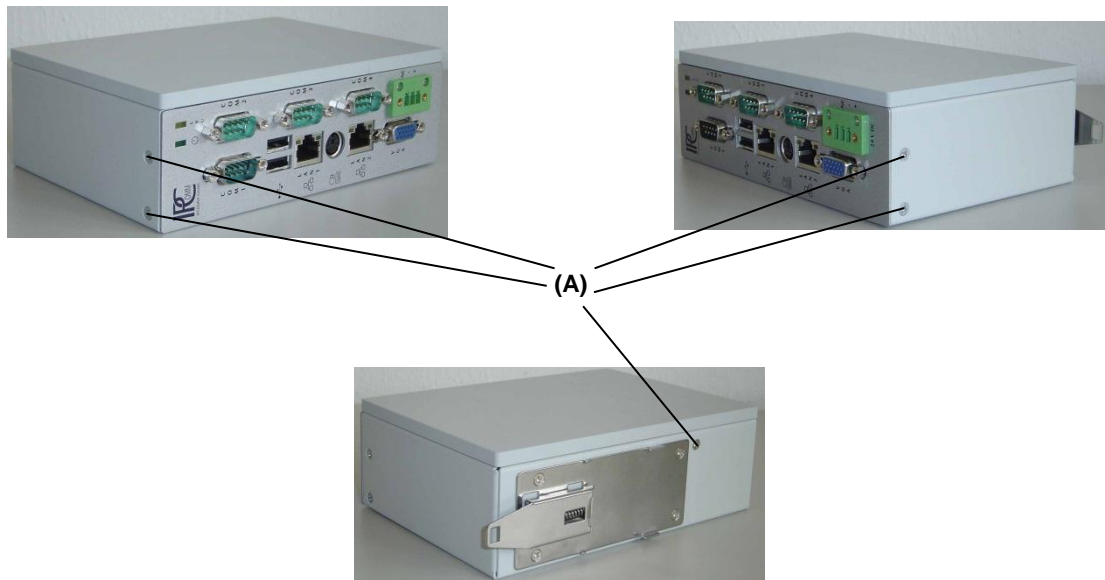
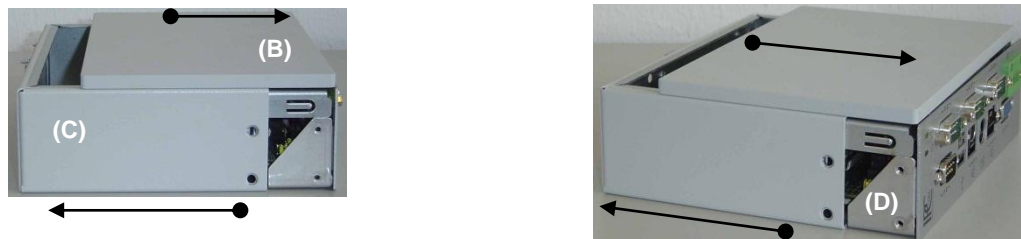

Figure 6: Loosening screws (A)
Figure 7: Demounting of the housing cover
- Now, after “Figure 6: Loosening screws (A)” and “Figure 7: Demounting of the housing cover” change the CompactFlash.
- Insert in correct position the plug-in board (conductor plate unit) incl. cooling element together with the front board into the housing. Insert and tight the previously loosened screws (“Figure 6: Loosening screws (A)” and “Figure 9: Assembling”).